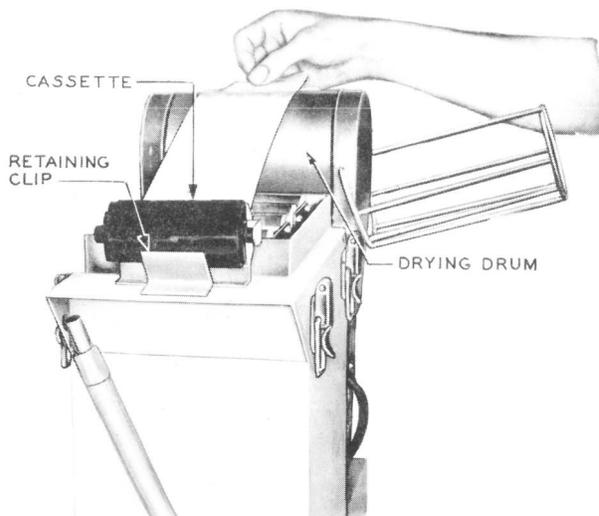

Fig. 14 — Drawing Paper Over Drying Drum of Photo Processor
7.04 Remove the wrapping and spacers from the cassette containing exposed paper to be processed. Hold the cassette containing the paper to be processed with the side marked UP uppermost. Pass the paper from the cassette through the opening in the cassette holder and position the cassette in the holder as shown in Fig. 14. Make sure that the cassette is held securely in the holder by the retaining clip and that the opening in the cassette is approximately at the center of the opening in the holder.
7.05 Draw the paper from the cassette over the drying drum, as shown in Fig. 14, and down against the winding drum. Exercise care not to touch the hot drying drum. Mount the